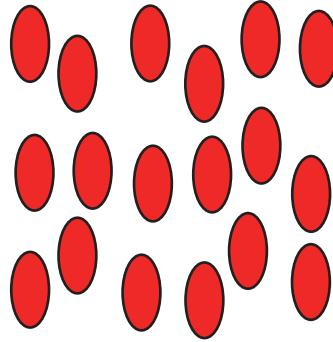

Figure 32: Nematic phase
**Definition 3.1** (Nematic phase). A nematic phase has position disorder, and *orientation order*. As shown in figure 32